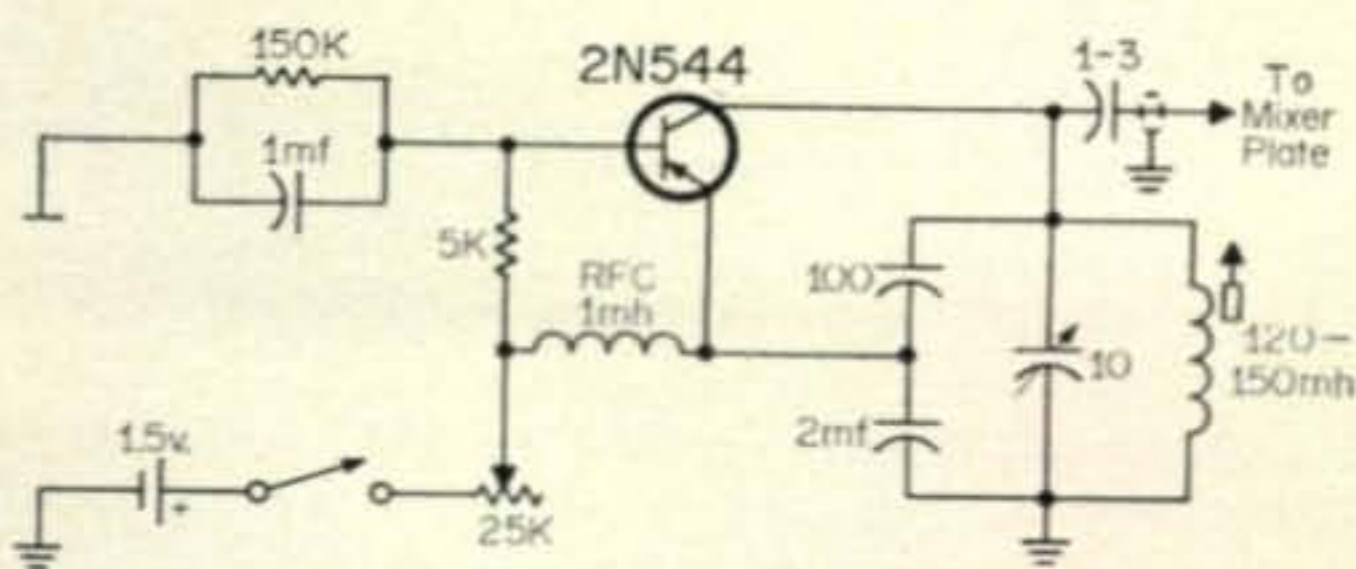

Fig. 7—Transistorized Q-multiplier for i.f.s. in the 1400 kc region.
**Another Transistor Q-Multiplier**—HAM CLINIC receives more questions relative to Q-multipliers than nearly any other "outboard" receiving accessory. The question most often asked is: "Please come up with a transistorized Q-multiplier for operation with an i.f. of around 1400 kc." Our effort is in figure 7. It is based on a design by H. J. Adami as it originally appeared in the ham mag, OM.